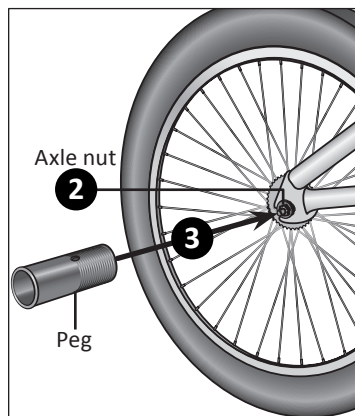

Figure 3.32
- 3 Close the quick-release lever and lock the seat in place. If there is not enough pressure to hold the seat in place open the quick-release lever. With one hand on the quick-release lever and one hand on the adjustment nut, start to hand tighten the adjustment nut until you start to feel some resistance against the post clamp. **Do not** attempt to tighten by turning the quick-release lever. The quick-release lever is for closing, the adjustment nut is for adjusting the pressure. **Figure 3.32**
- 3 Thread the pegs on the axle over the axle nut. **Figure 3.32**